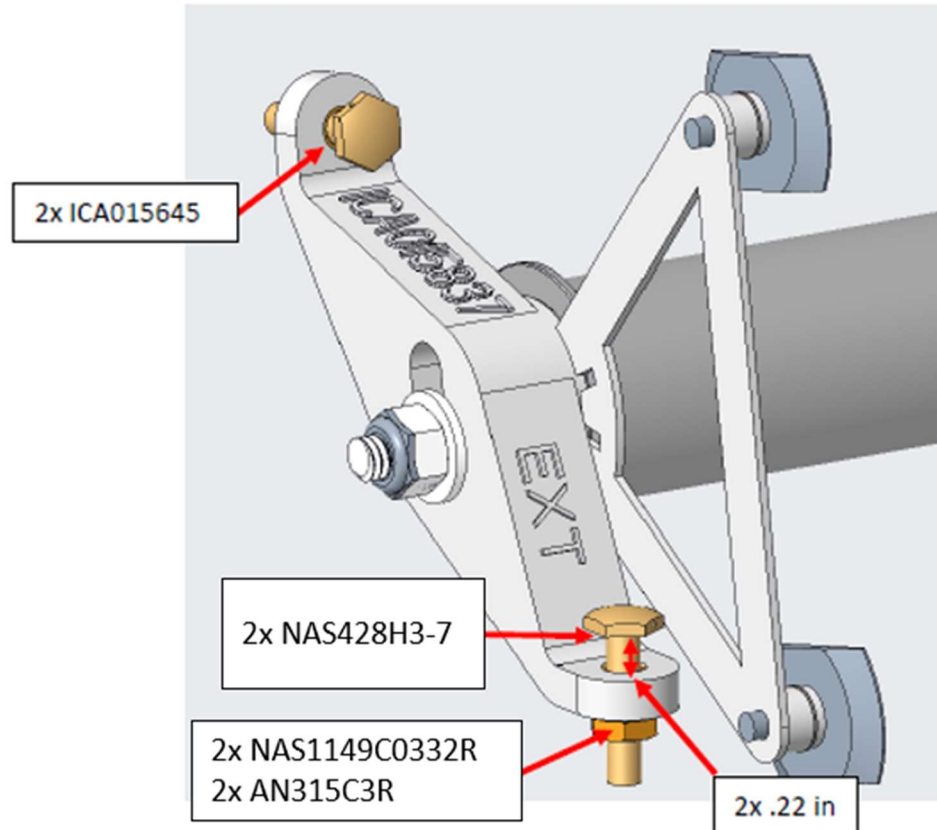

Figure 5. Limit switch bracket sub assembly
- Install 2 each bolt (NAS428H3-7), 2 each washer (NAS1149C0332R) and 2 each nut (AN315C3R) as shown in **Figure 5** onto 1 each the new retrofit NLG Limit Switch Bracket assembly. Set pre-gap (.22 in) as specified below. Pre-install jam nut (AN315C3R) finger tight but do not torque.